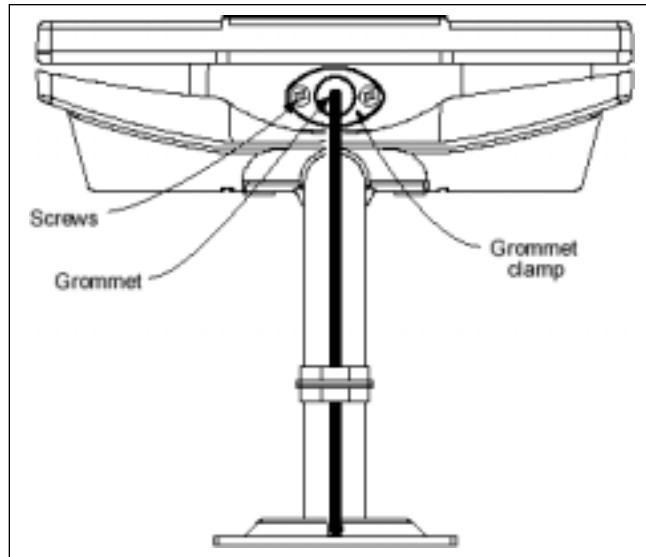

Figure 5-11 Grommet Location - Underside of Access Point
2. Insert the cable end through the grommet clamping plate (Figure 5-11)